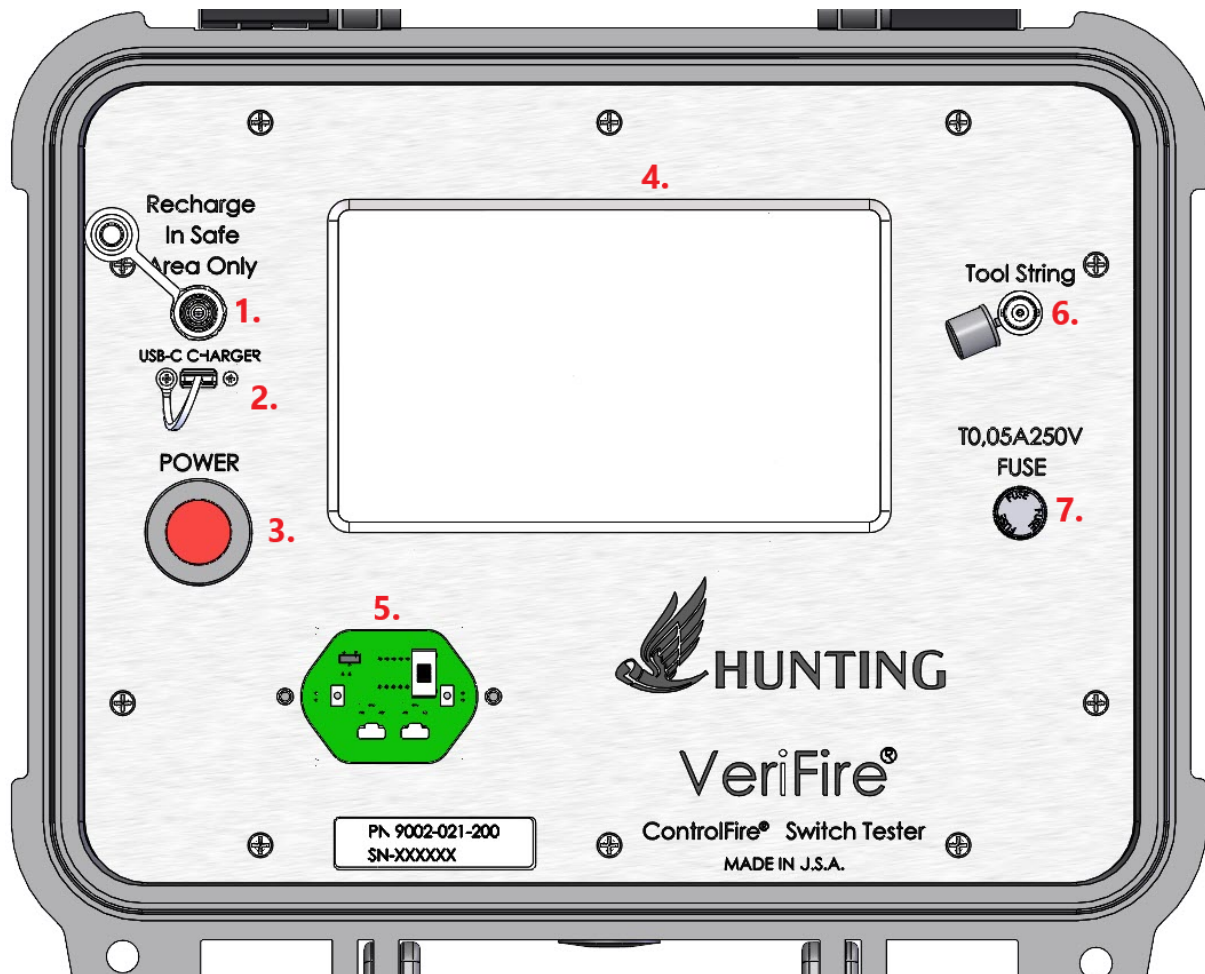

Figure 7 - VeriFire Front Panel
The following describes the various mechanical features of the VeriFire® Panel. Figure 7 is an overall view of the VeriFire Front Panel.
1. Remove the two screws that hold the Firmware Update access panel in place. Refer to Figures 7 and 8.